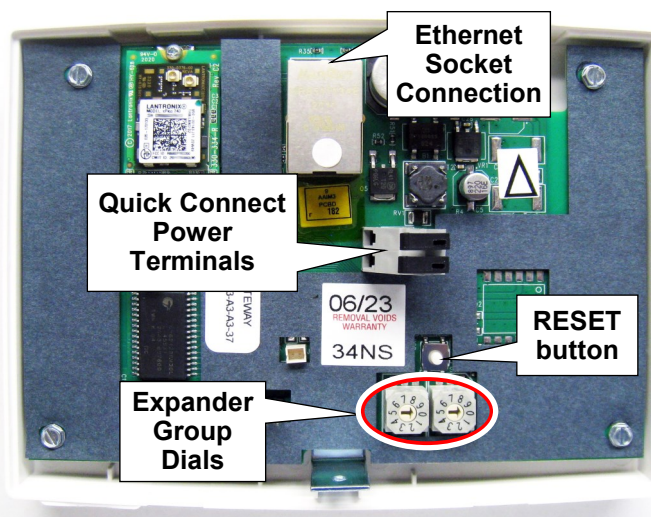
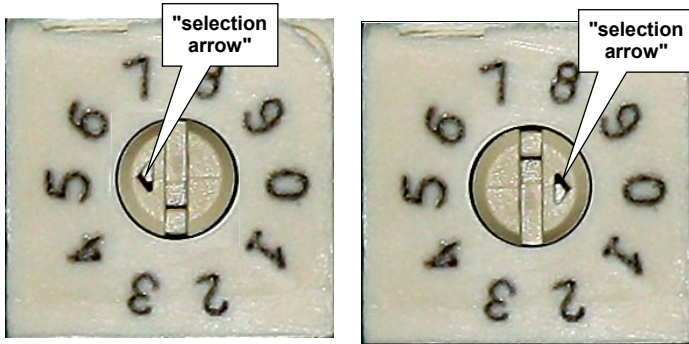

Fig. 4: Important parts of your **AA-GATEWAY**
Fig. 5. Example: The above Expander Group dials are set to "50"
Inside the **AA-GATEWAY** are two rotary Expander Group Dials (see Fig. 4).
in Fig. 5 (below), the Group value is set to "50". Use a small flat-head screwdriver to turn the dials and make the selections. *Be sure to orient the Gateway as shown in Fig. 4 with the **RE-SET** button ABOVE the dials to ensure proper Group setting!*
- Press / hold **RESET** button (see Fig. 4 for button location).